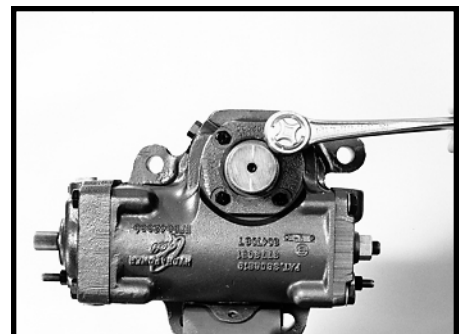

Figure 40
4. Remove the four trunnion cover bolts 1281 with a 1/2 inch socket. SEE FIGURE 40.